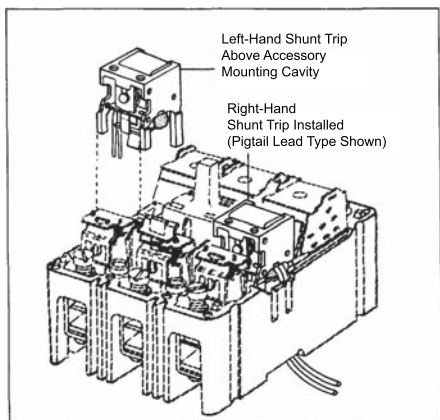

Fig. 2-3. Shunt Trip Installation Positions.
- 2-6. Insert shunt trip as described in the following steps (see Fig. 2-3):